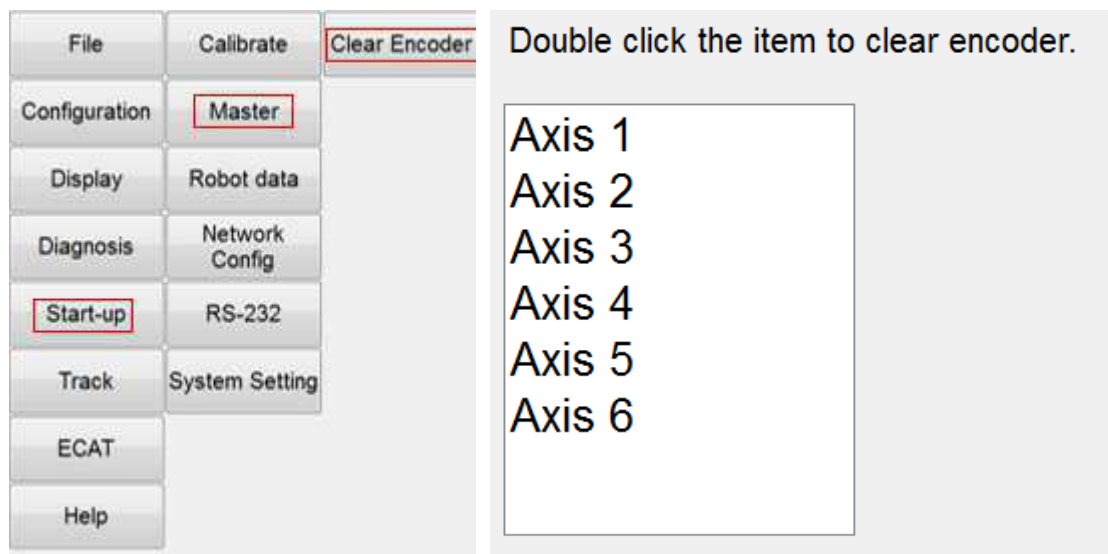

Figure 4-8 Clear encoder by HRSS
Step3: Click Main Menu>>Start-up>>Master>>Clear Encoder. (As shown in Figure 4-8)
Step4: Double click the axis to clear encoder. (As shown in Figure 4-8)